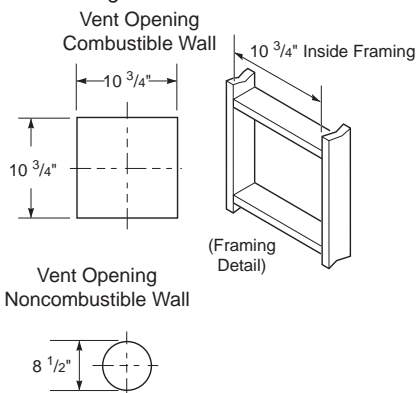
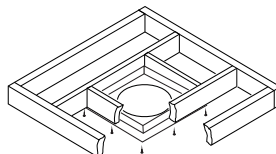

Figure 18 - Vent Opening Requirements
Figure 26 - Installing Firestop
3. Attach vent pipe assembly to fireplace using twist lock connections for rigid pipe or clamp method for flex pipe. Set fireplace in front of its permanent location to insure minimum clearances. Mark wall for a 10 $\frac{3}{4}$ " square hole (for noncombustible material such as masonry block or concrete, a 8 $\frac{1}{2}$ " diameter hole is acceptable). See Figure 18. The center of hole should line up with center line of rigid vent pipe. Cut a 10 $\frac{3}{4}$ " x 10 $\frac{3}{4}$ " square hole through combustible exterior wall (8 $\frac{1}{2}$ " diameter hole if non-combustible). Frame as necessary.
1. Cut a 12 1/2" square hole in the ceiling using locating hole as a center point. Opening should be framed to 12 1/2" x 12 1/2" inside dimensions, as shown in Figure 18 on page 13, using framing lumber the same size as ceiling joists. If area above ceiling is an insulated ceiling or an attic, nail firestop from top side. This prevents loose insulation from falling into required clearance space. If area above ceiling is a living space, install firestop below framed hole. The firestop should be installed with no less than three nails per side (see Figure 26).
3. Cut a hole in roof using locating hole as a center point. (Cover any exposed open vent pipes before cutting hole in roof.) The 12 1/2" x 12 1/2" hole must be measured on the horizontal, actual length may be larger depending on pitch of roof. There must be a 1" clearance from vent pipe to combustible materials. Frame opening as shown in Figure 18 on page 13.